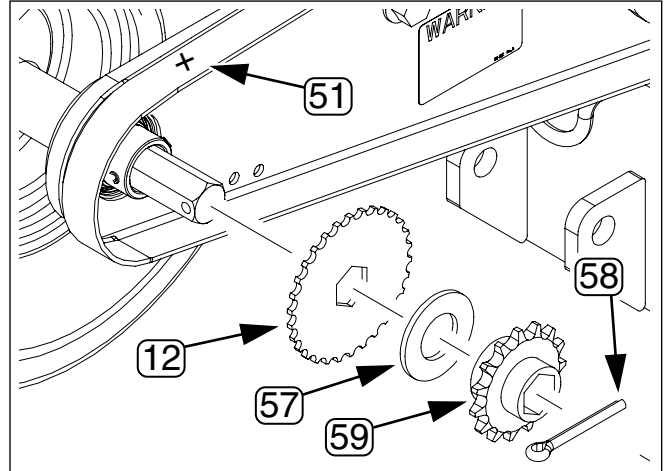
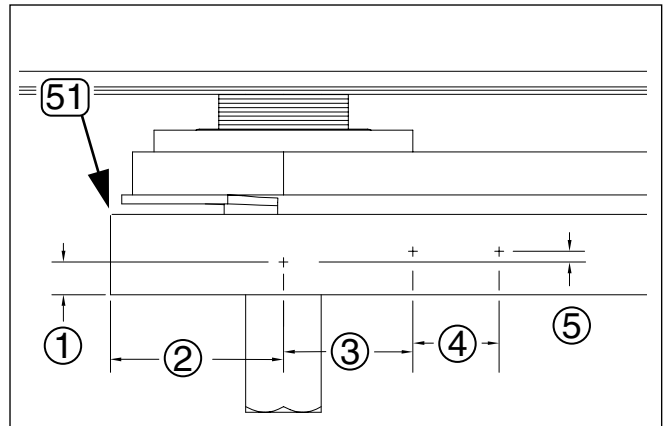

Figure 5
Figure 6
Refer to Figure 5 and Figure 6
Refer to Figure 6
12. Mark for two additional holes forward and slightly to the left of the sensor hole, as depicted in Figure 6.